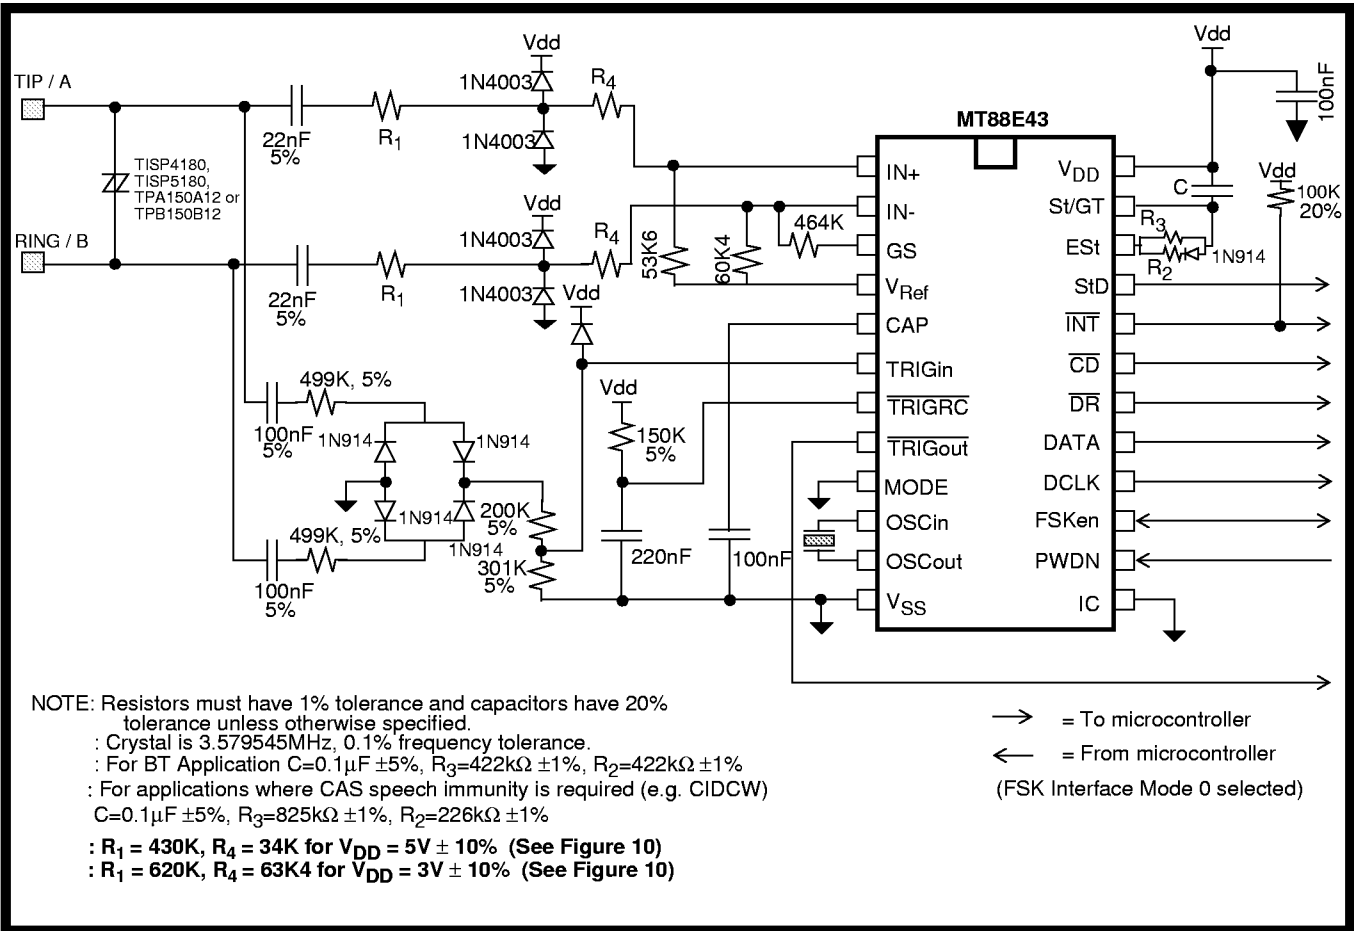
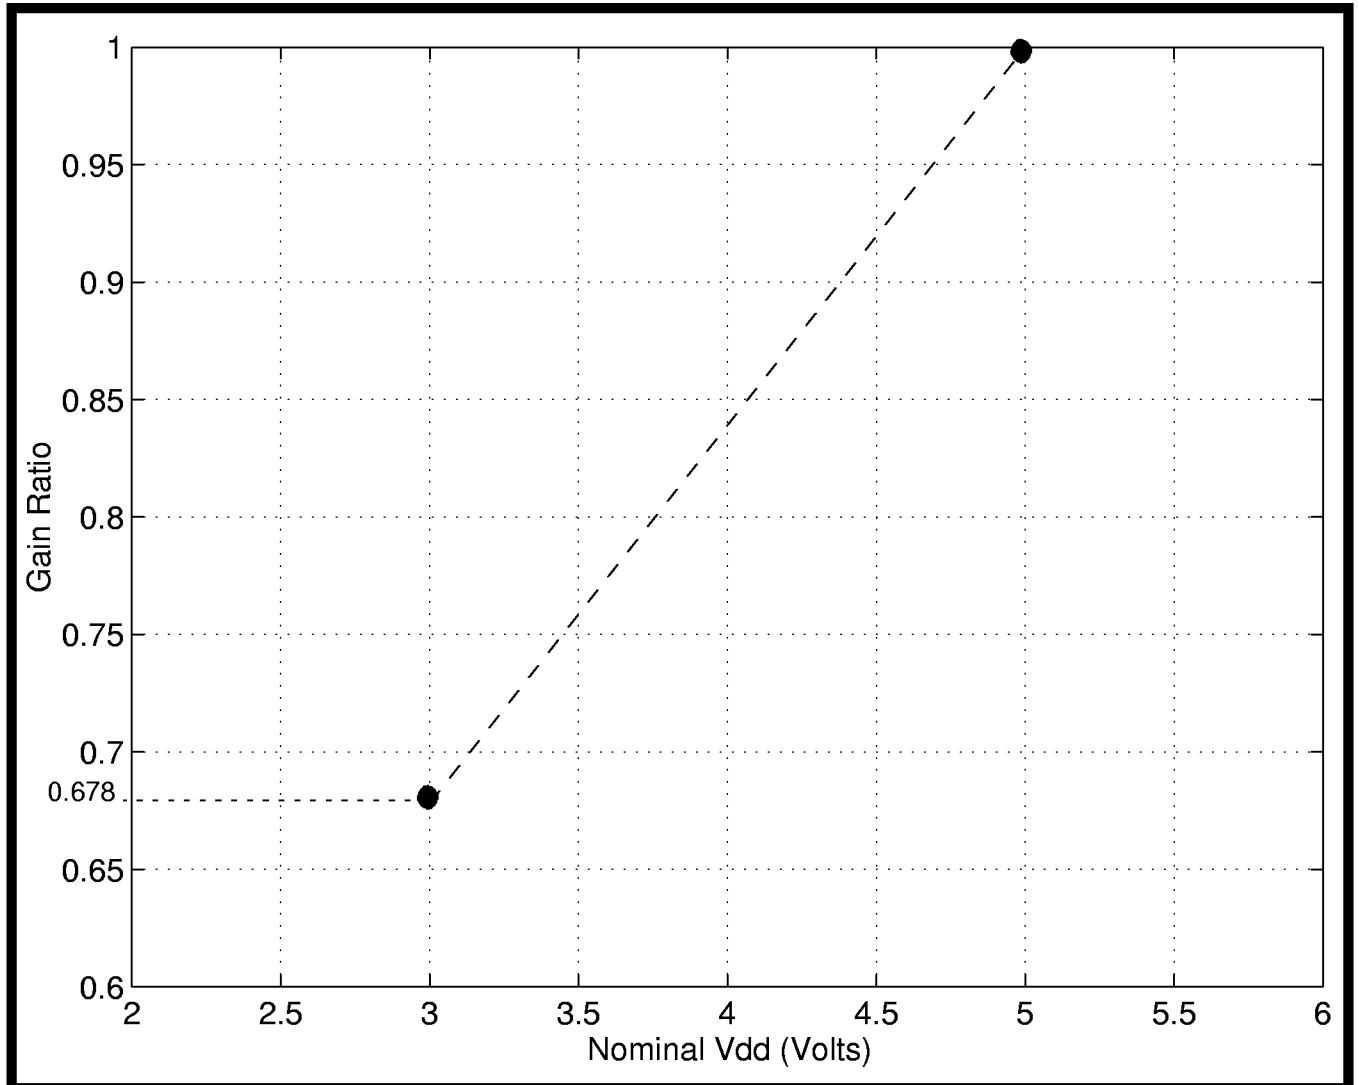

Figure 9 - Application Circuit
Figure 10: Gain Ratio as a function of Nominal Vdd
Figures 9 and 11 ($R2=R3=422K$, $C=0.1\mu F$) will meet the BT timing requirements.
$(A_{ydiff}) = R5/R1$ (see Figure 9,10,11)
The circuits shown in Figures 9 and 11 are application circuits for the MT88E43. As supply voltage (V_{DD}) is decreased, the threshold of the device's tone and FSK detectors will be reduced. Therefore, to meet the BT or Bellcore tone reject level requirements the gain of the internal opamp should be reduced according to the graph in Figure 10. For example when V_{DD}=5V (+/- 10%), R₁ should equal 430kΩ and R₄ should equal 34kΩ; and if V_{DD}=3V (+/- 10%) R₁ should equal 620kΩ and R₄ should equal 63.4kΩ. Resistors R₁ and R₄ are shown in Figures 9 and 11.
The circuit shown in Figure 9 illustrates the use of the MT88E43 in a proprietary system that doesn't need to meet FCC, DOC, and UL approvals. It should be noted that if glitches on the tip/ring interface are of sufficient amplitude, the circuit will falsely detect these signals as ringing or line reversal.
Note: In the application circuits shown in Figures 9 and 11, the Gain Ratio of MT88E43 opamp is
- With gain setting as shown in Figure 10. Production tested at $3V \pm 10\%$, $5V \pm 10\%$.